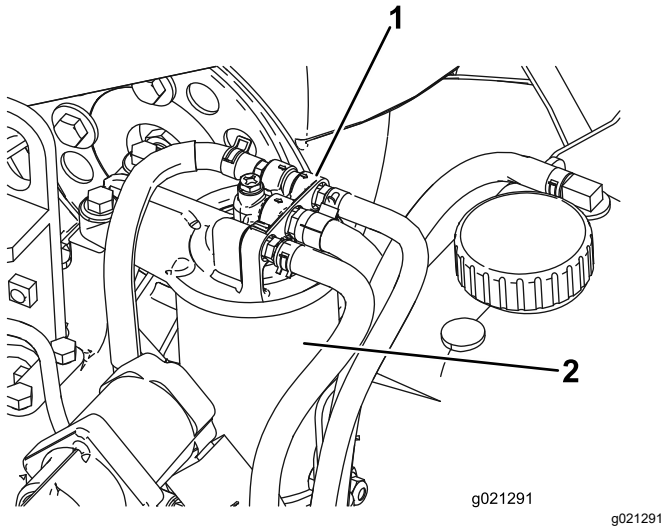

Figure 96
1. Clean the area around the fuel-filter head (Figure 96).
2. Remove the filter and clean the filter head mounting surface (Figure 96).